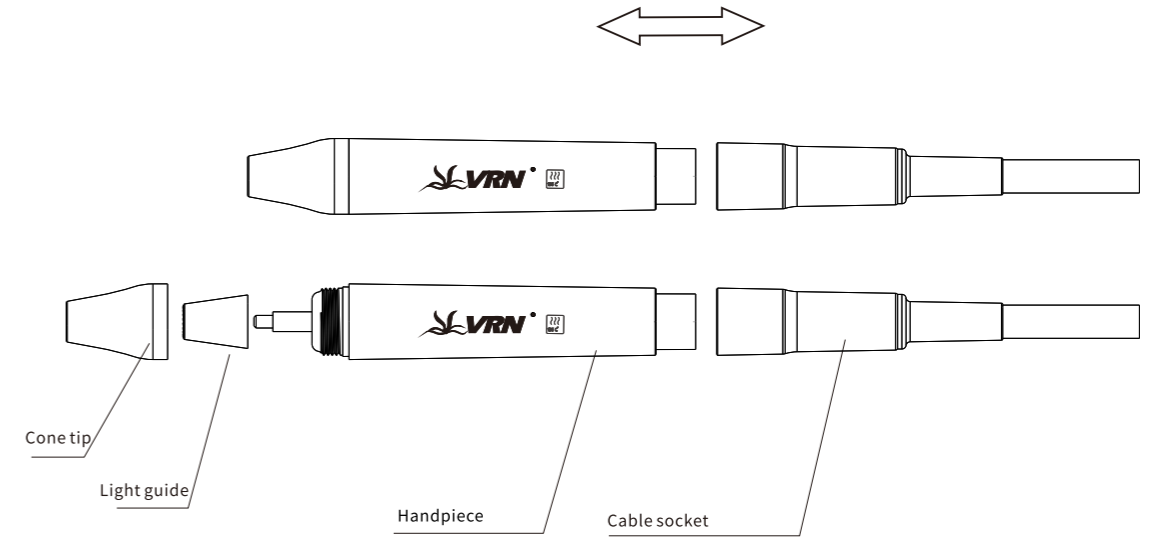
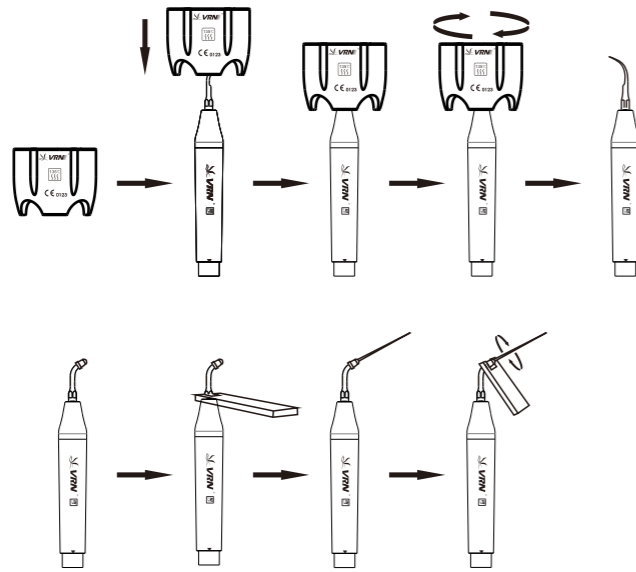

Figure 5 Detachable Handpiece Installation and Connection Schematic Diagram
Figure 6 Assemble and Disassemble Schematic Diagram of Working Tip
By employing special structure design, this torque wrench could not only effectively install and remove the working tip, but also protect the user's hands during working. Operation Steps (See Figure 6):
- 5) Use the torque wrench to fasten the working tip to the handpiece (as shown in the Fig. 6), then properly connect the handpiece to its tail socket. Before installing the handpiece, thoroughly dry the handpiece and its cable socket (as shown in Fig. 5).
- 1) Use an endo file wrench to fix the file holder to the handpiece (as shown in Fig. 6).
- 2) Unscrew the nut of the file holder (as shown in Fig. 6).
- 3) Insert the ultrasonic endo file into the hole in front of the file holder (as shown in Fig. 6).
- 4) Use an endo file wrench to tighten the nuts of the endo file (as shown in Fig. 6).